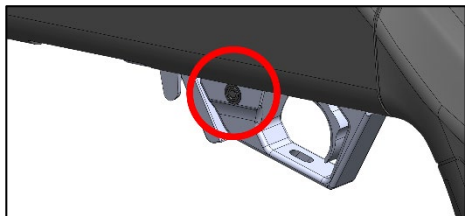

Figure 20 – SAFETY ON/FULL SAFE
- Place the safety button into the “FULL SAFE” position – Figure 20.